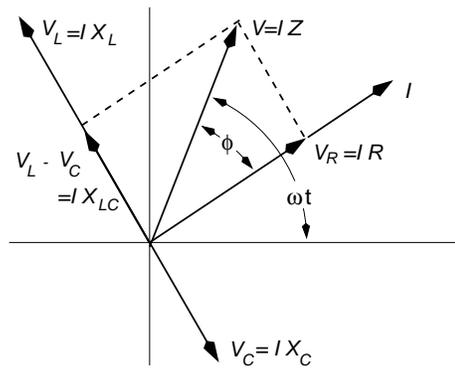

Figure 2
6. *Phase relations:* Use scope channel 1 (plus a differential amplifier) to observe the total voltage $V_{rms RLC}$ across the RLC combination. Use scope channel 2 (plus differential amplifier) to observe $V_{rms R}$. Fig. 2 shows the phasor relationships.
- (ii) With $f = f_r$, short out the capacitor by a jumper, (e.g. with metal bridge connector). Note what happens. Unshort capacitor and then short the inductor. Explain results in terms of Fig. 2. Does current lead or lag the applied voltage in each case?